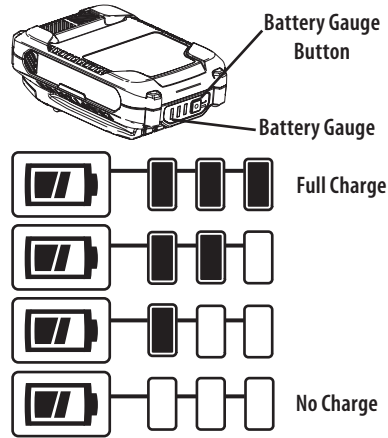

Figure 29
1. Press the battery gauge button on front of the battery pack to check charge level (Figure 29):